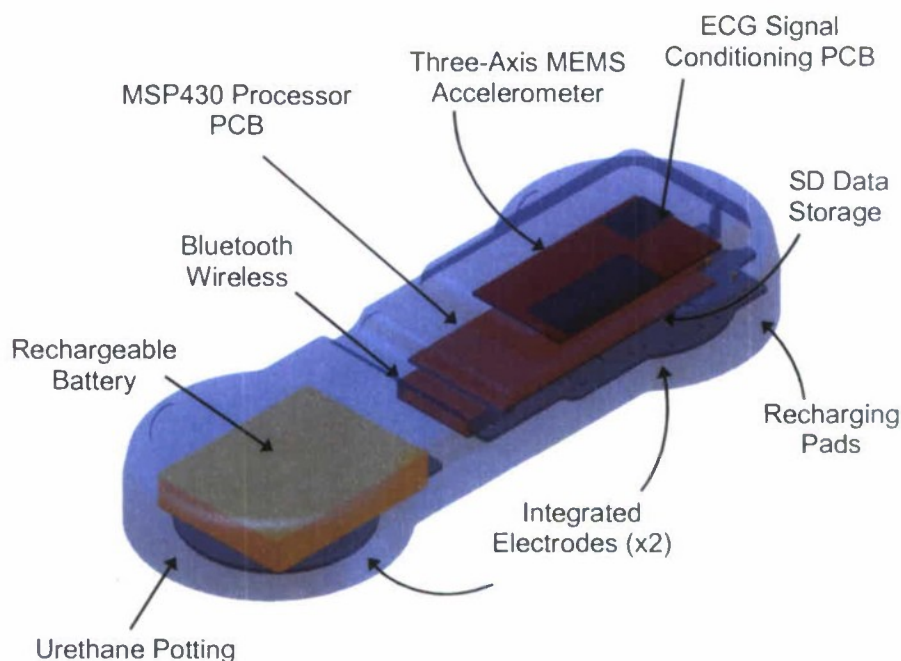

Figure 4. Layout of Components within the DHMS ECG Sensor
| Figure 4. | Layout of Components within the DHMS ECG Sensor | 5 |
The major internal components of the DHMS ECG sensor are shown in Figure 4. As can be seen, the device is built around a MSP430 processor from Texas Instruments. The MSP430 digitizes the ECG signals, processes the signals to measure the heart rate, stores the data in local nonvolatile memory (SD), and services the digital wireless link (Bluetooth). The ECG signals themselves are received from the body via two integrated ECG electrodes on the bottom of the device. The low-level ECG signals from the body are conditioned by analog circuitry built into a daughter card mounted above the MSP430. The device is powered by an integrated, rechargeable, lithium polymer battery pack (3.7 V, 280 mA-hrs). The battery is recharged via gold pads that are exposed on the bottom of the sensor which mate to power pins on the Creare DHMS sensor dock. The whole device is potted in urethane to make it waterproof and pressure tolerant.